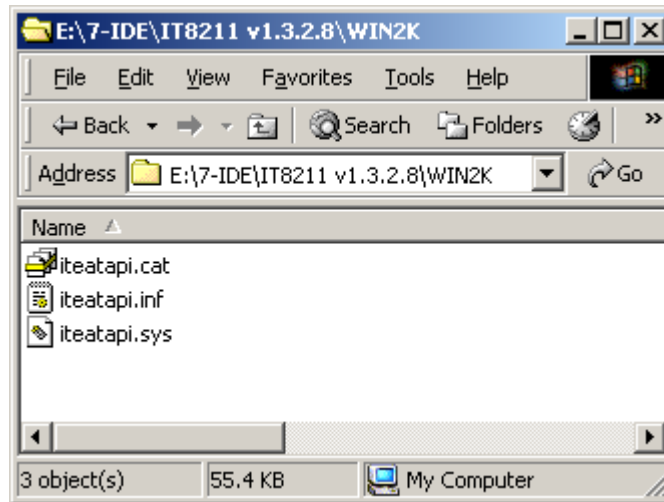

Figure 7-46: Location Browsing Window
Step 8: Select the proper OS folder under the “X:\7-IDE\IT8211 v1.3.2.8” directory (Figure 7-46) in the location browsing window, where “X:\” is the system CD drive.